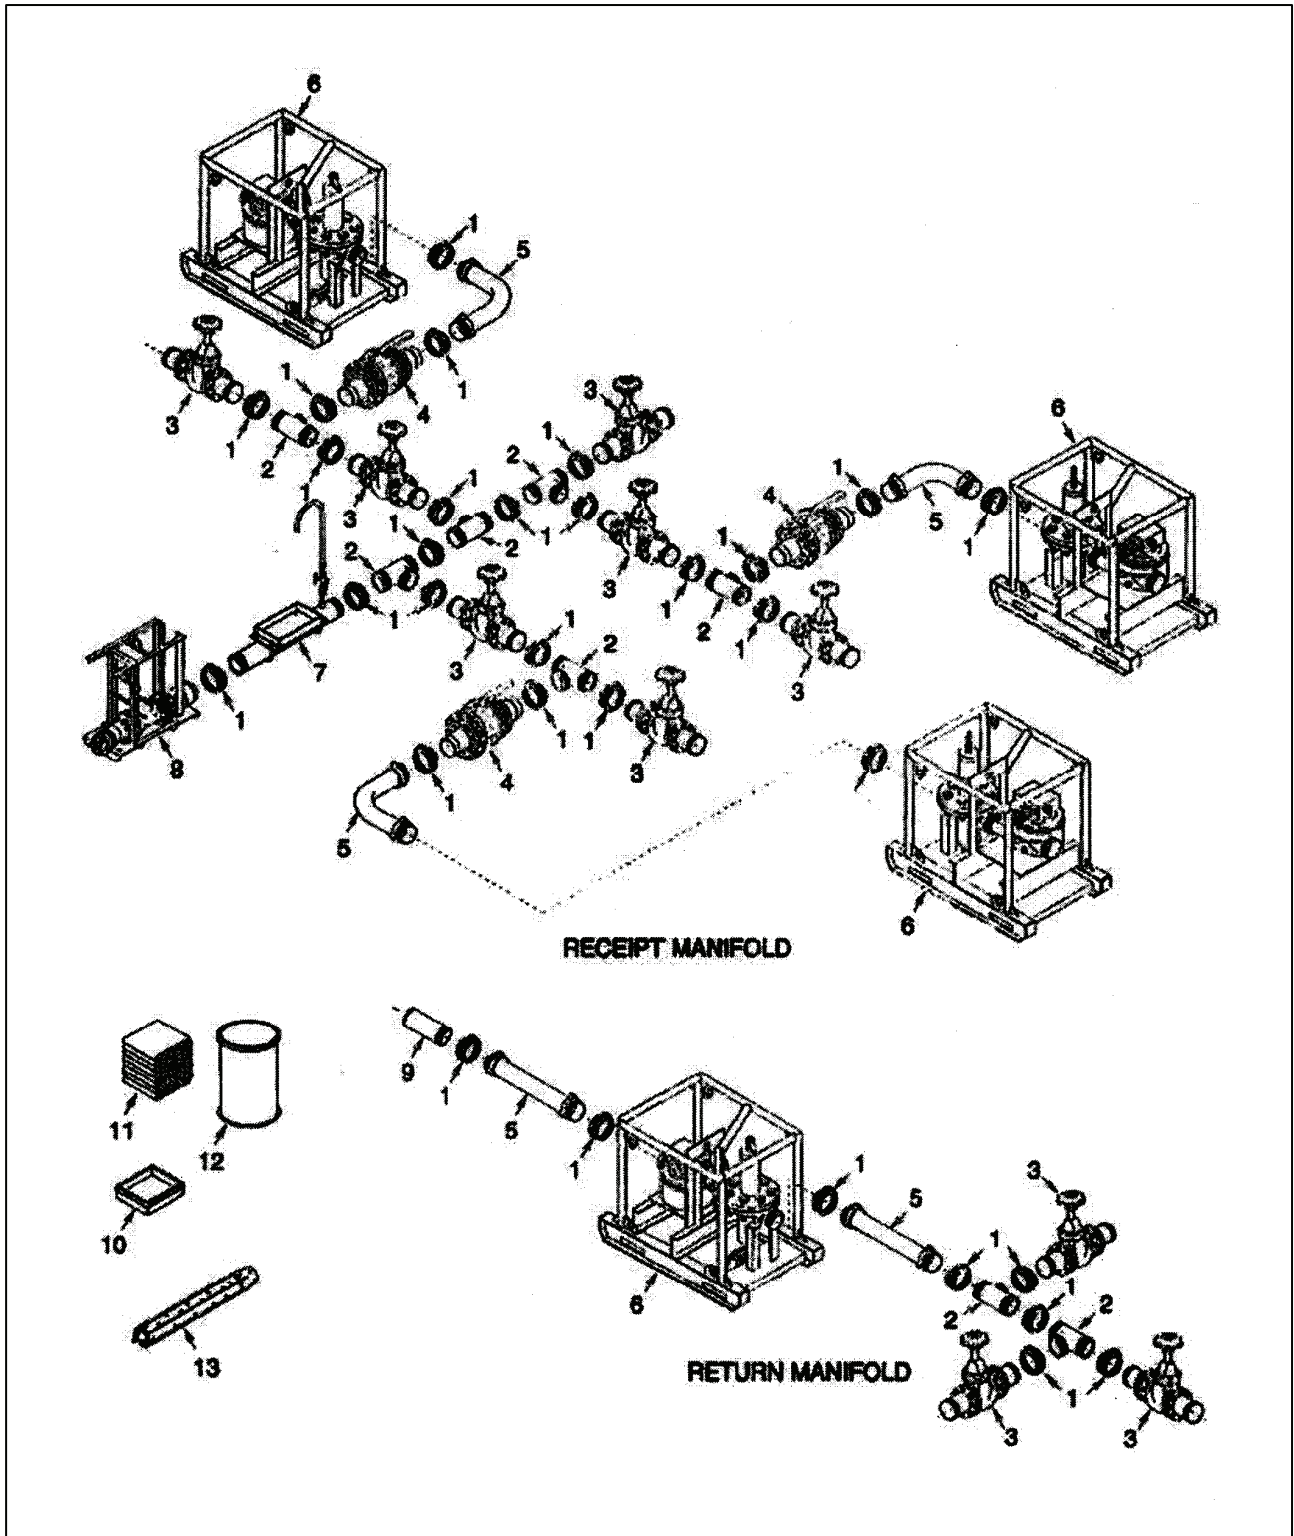

Figure 4
11. Place switching manifold (Figure 4).
- a. Place containers containing 6-inch aluminum tees (2), 6-inch gate valves (3), 6-inch sampling assembly (7), 6-inch ball valves (4), hose assemblies (5), meter skid assemblies (6), and pressure regulating valve assembly (8) near their respective installation sites as indicated.